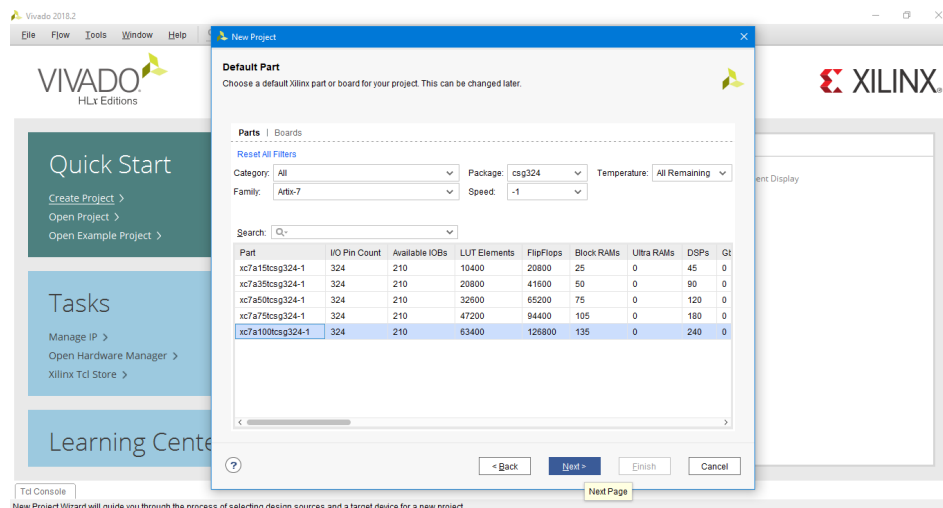

Fig. 3.4: Default Board Dialog Box
4. A *Default Part* dialog box will appear. Select the same family, package and speed of the board. Then, from the parts shown select *xc7a100tcsg324-1*. (Fig. 3.4.) Or select the *Boards* tab and it will display a list of boards. Select the board Nexys A7 100T and Click *Next* to Continue.